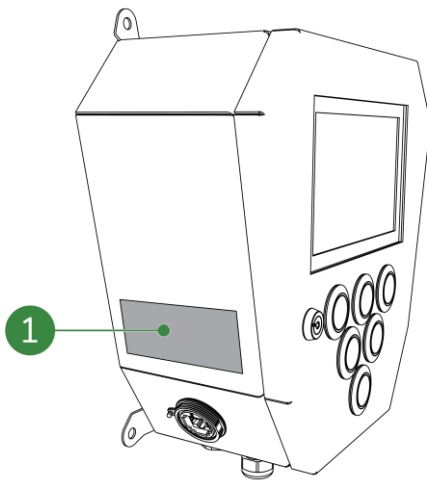

Figure 1-6: Identification plate HMI
The identification plate (Figure 1-6, pos. 1) of the HMI is mounted on one of the sides of the HMI.